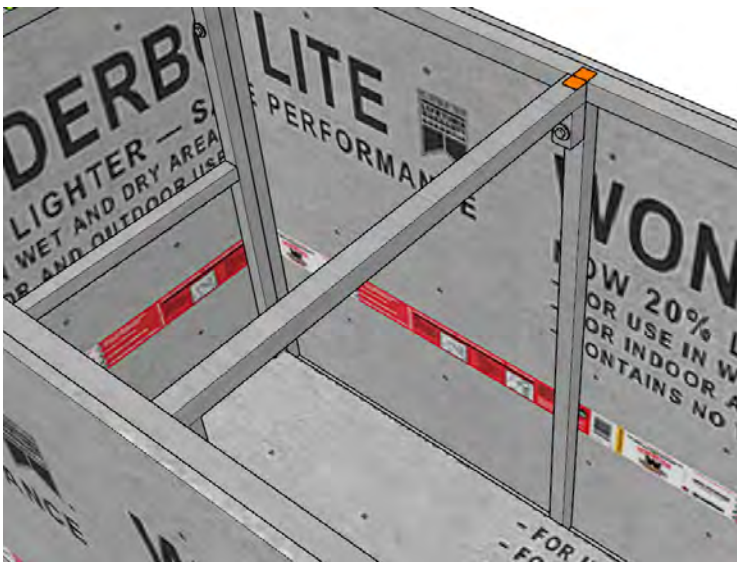

Figure 11
- Attach supports as shown in figure 11